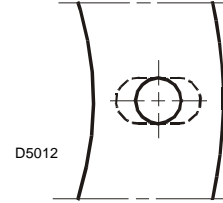

Fig. 7
- Widen, if necessary, the insulating gasket holes (5), (see Fig. 7).